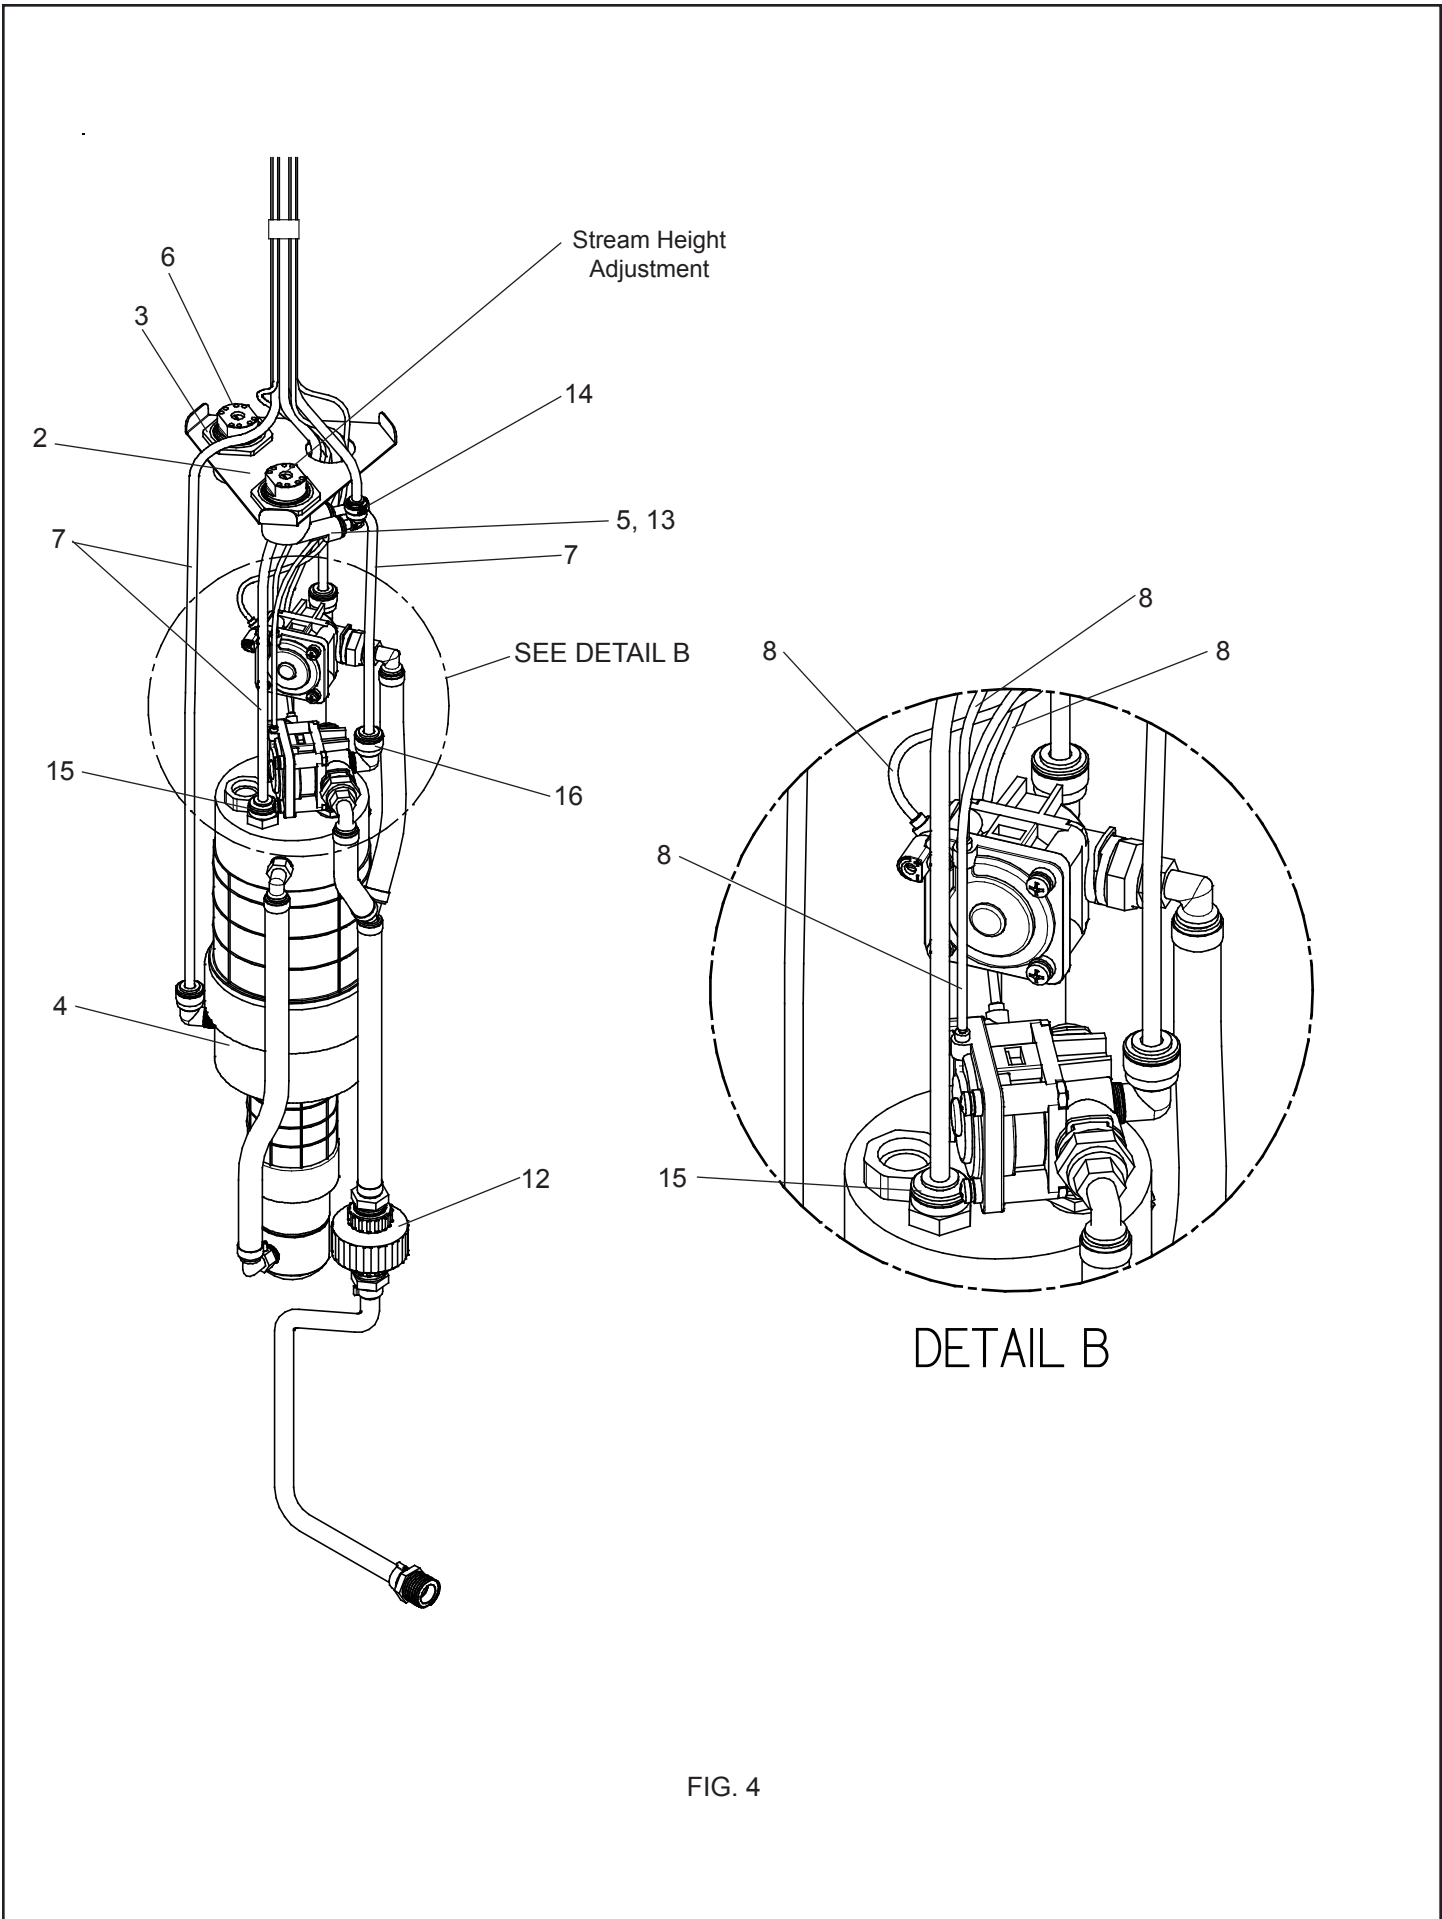

FIG. 4
- Remove the valve assembly from the PVC column by carefully pulling up on the strap and connecting tubing at the same time. Check stream height from the bubbler. Stream height is factory set at 35 PSI. If supply pressure varies greatly from this, adjust the screw on the regulator (Item 13, Fig. 4, Page 6). Clockwise adjustment will raise stream and counter-clockwise adjustment will lower stream. For best adjustment stream height should be approx. 1-1/2" (38mm) above the bubbler guard. Replace the valve into the PVC column. Make sure the supply hose coils into the bottom of the PVC column without any kinks and double check that the valve is positioned fully at the bottom of the PVC column.